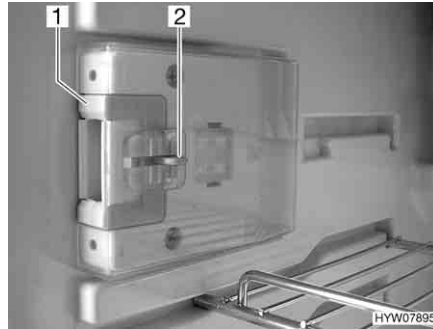
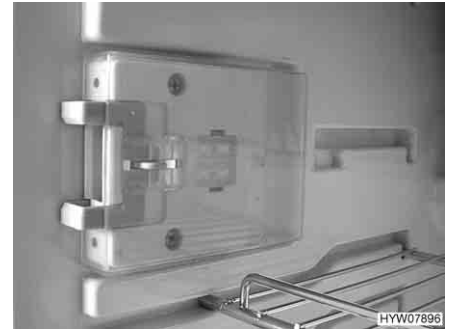

Fig. 221 Locking device in normal position
Fig. 222 Locking device in ventilation position
- Press down the unlocking device (Fig. 221,2).
- Push locking device (Fig. 221,1) forwards (Fig. 222).